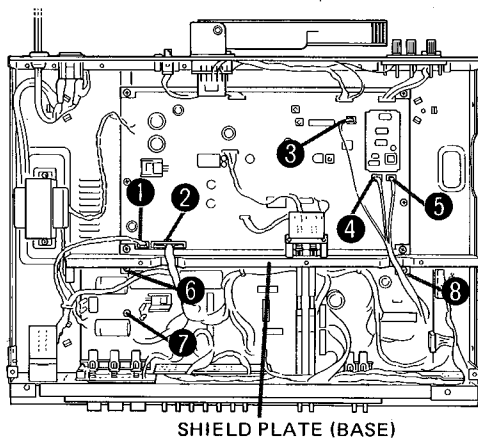

Fig. 5
2. Detach the connector 1 to 5 in Fig. 5.
4. Remove screws 6 to 8 in Fig. 5 and then remove PCB-2.